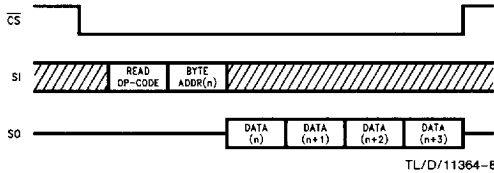

FIGURE 6
Reading the memory via the SPI link requires the following sequence. The CS line is pulled low to select the device. The READ op-code (which includes A8) is transmitted on the SI line followed by the byte address (A7-A0) to be read. After this is done, data on the SI line becomes don't care. The data (D7-D0) at the address specified is then shifted out on the SO line. If only one byte is to be read, the CS line can be pulled back to the high level. It is possible to continue the READ sequence as the byte address is automatically incremented and data will continue to be shifted out. When the highest address is reached (1FF), the address counter rolls over to lowest address (000) allowing the entire memory to be read in one continuous READ cycle. See Figure 6.